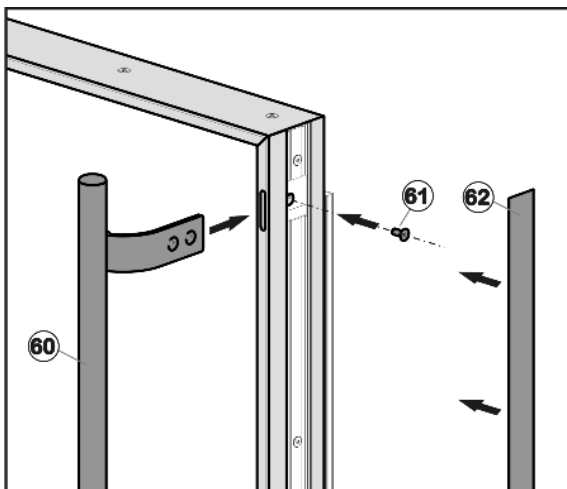

Fig. 73
- ▶ Push handles *Fig. 73 (60)* into the openings in the door and screw on *Fig. 73 (61)*. Press cover trim *Fig. 73 (62)* into position.